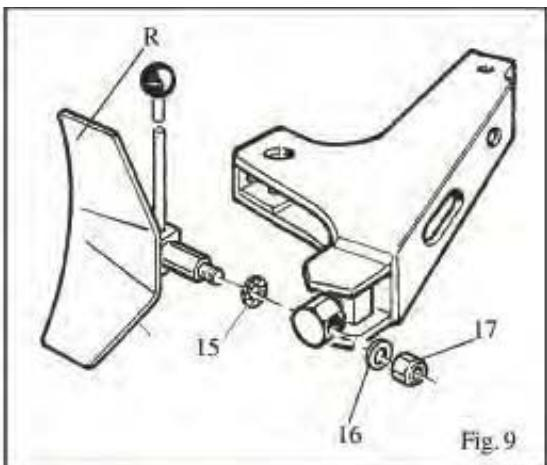

Fig. 9
- Set the blade (R) on the bead breaker arm. Pay attention to place the washer (15) inside the arm and the washer (16) outside. Fig. 9.
- Tighten the self-locking nut (17) on the blade pin. Fig. 9/A.